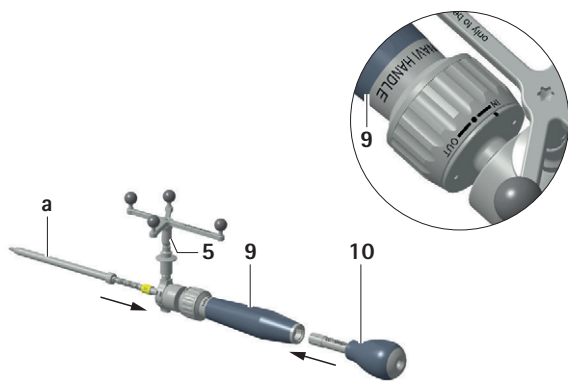

Fig. 9
- Tighten the handle to the shaft by inserting the assembly tool **10** to the distal end of the navigation handle **9** and turn the assembly tool **10** clockwise as shown on the left side of the image, see Fig. 9.
The navigation handle **9** can be moved to the following positions by rotating the collar of the handle, shown on the right side of the image, see Fig. 9: